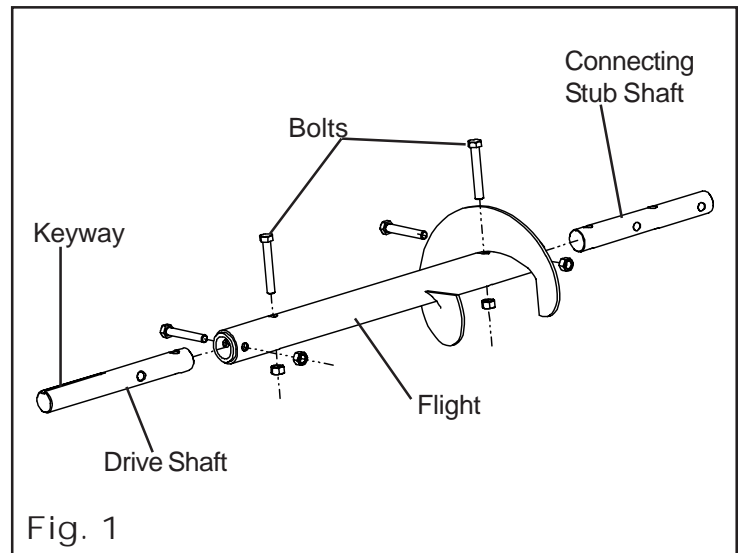

Fig. 1
- D. Align the holes in the shaft and secure with Grade 8 bolts and stover nuts. (See Figure 1) (See Chart Below)